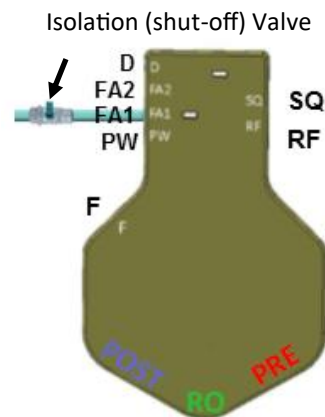

Figure 6
- Make sure that a 3/8” isolation/shut-off valve is installed at the system in the cooler line and easily accessible under the sink cabinet (Figure 6).